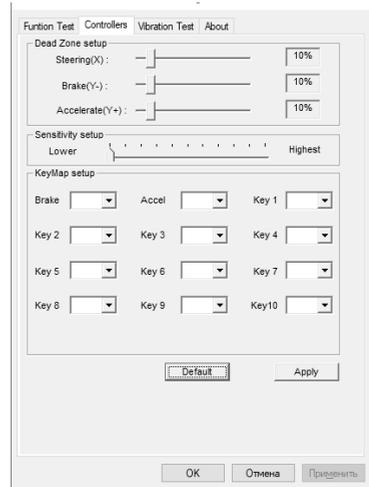

Fig. 8
- Choose «Controllers» to set axes and keys (see Fig. 8). Setting of axes and keys (not compatible with OS Vista 64)
- Dead Zone setup: controller will not respond to slight touch of acceleration pedal (Accelerate Y+), or brake pedal (Brake Y-), or turns of the wheel (Steering X), therefore necessary adjustments should be made by cursors (Fig. 8);
- Sensitivity setup: the higher sensitivity is, the swifter and more efficient response of controller to pressing of pedals and turns of the wheel will be, therefore necessary adjustments within Lower to Higher range should be made by cursors (Fig. 8);
- KeyMap Setup reprograms functional keys: there should be chosen new necessary assignment against the key designation (Fig. 8);